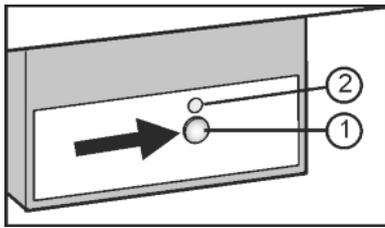

Fig. 21
- ▶ Press the On/Off button Fig. 21 (1) so that the LED Fig. 21 (2) shines.